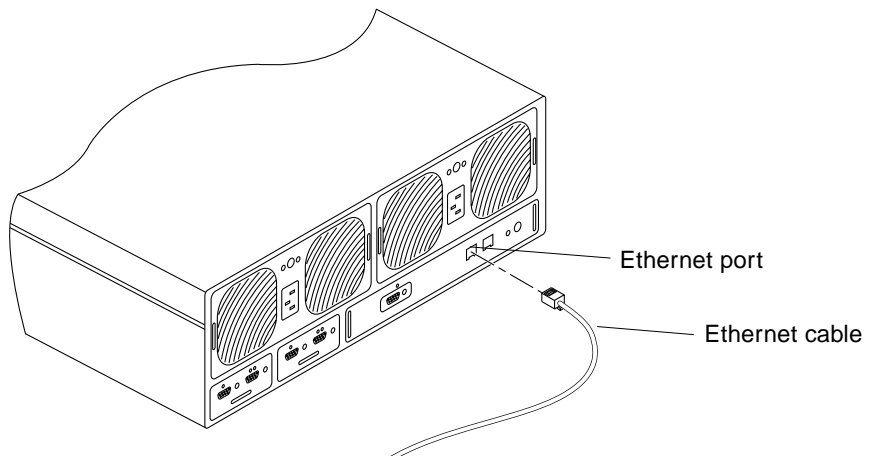

FIGURE 6-3 Connecting the Ethernet Cable
- 4. Attach one end of the Ethernet cable to the Ethernet port on the controller card of the master unit (FIGURE 6-3).**